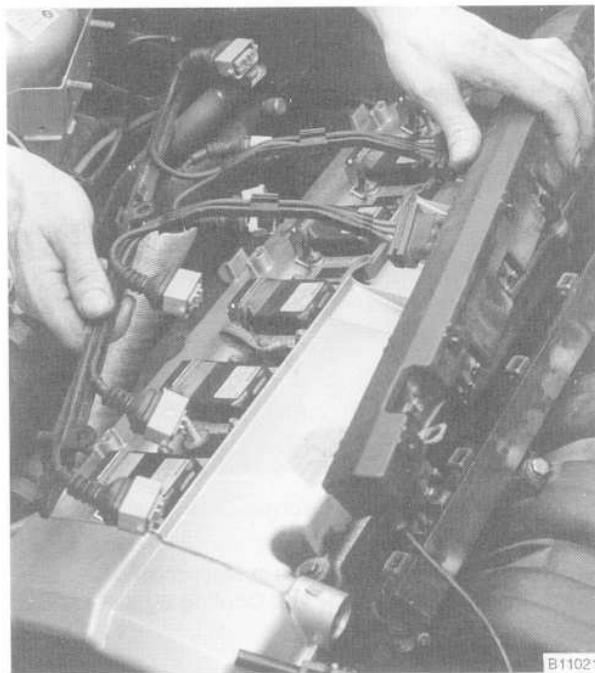

Fig. 15. Remove main harness from top of engine and place at base of windshield.
15. Remove the top engine covers and disconnect the ignition coil harness connectors. Working at the fuel injectors, pry open the small wire clips at each injector. Remove the two main harness hold-down nuts and lift the entire harness away. Place the harness out of the way. See Fig. 15.